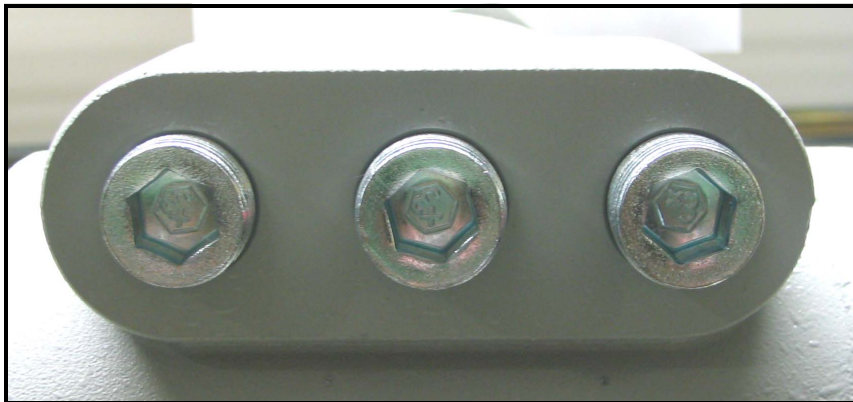
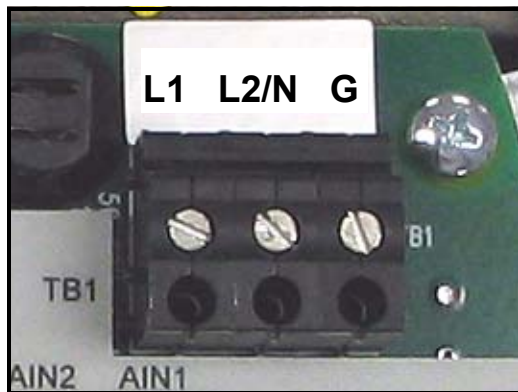
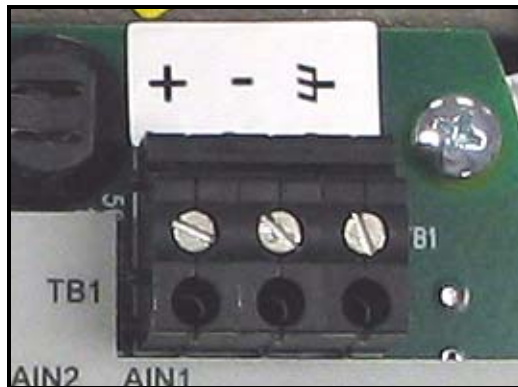

Figure 12: Conduit Inlet Ports
Figure 13: Wiring the AC Line Power
Figure 14: Wiring the DC Line Power
See Figure 13 on page 23 to locate terminal block TBI and to connect the line power as outlined below:
2. Route the cable through one of three conduit inlet ports (see Figure 12 above) and connect the line power leads to the terminal block TBI, using the pin number assignments shown in Figure 27 on page 34 and Figure 13 or Figure 14 on page 23.
3. Run the AC power connections to the Power Terminal Block shown in Figure 13 below. It is recommended to use 12-18 AWG (3.3 - 0.82 mm2) power wiring.
5. Route the cable through one of three conduit inlet ports (see Figure 12 above) and connect the line power leads to terminal block TB1, using the pin assignments shown in Figure 27 on page 34 and Figure 13 or Figure 14 below.